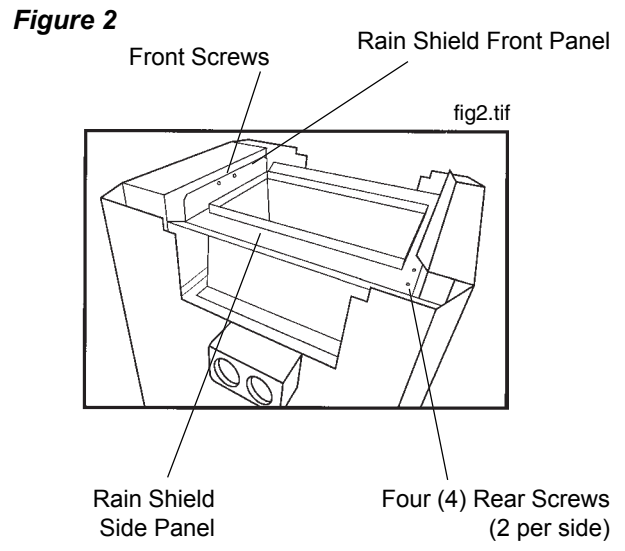

Figure 3
- b) Remove four (4) screws attaching the rain shield to the rear vertical support panel.
3. Remove the flue collector housing (see figure 3).